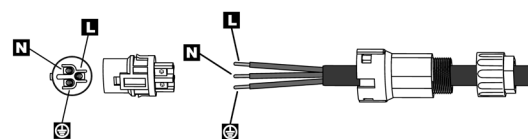

Fig. 29. Connecting and fastening the sleeve on the AC terminal.
- d. According to the direction of the arrow, push the threaded sleeve until it connects to the AC terminal head, and then turn the cable gland clockwise to lock it, as shown in Fig. 29: